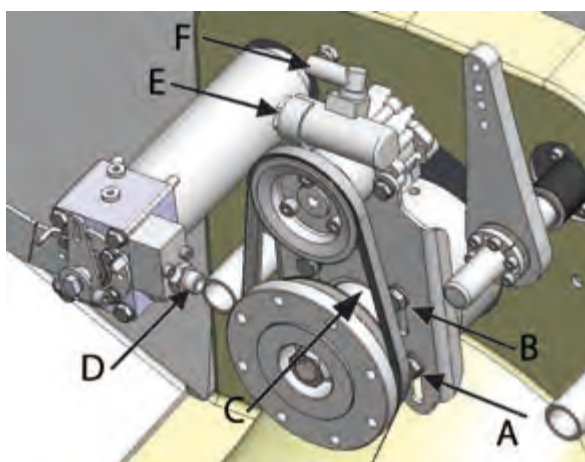

Figure 33. Attaching the hydraulic pump
There are a total of four screws, two on each side (figure 33, points A and B).
3. Lift the bracket by cranking it from point C indicated in figure 33.
5. Install the pressure hose to connectors D and E (figure 33).
6. Install the reservoir hose to connector F (figure 33).